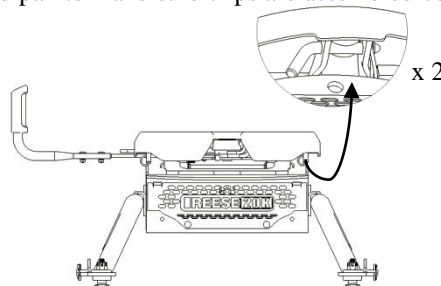

FIG. 6
2. Insert pull pin as shown in figure 6, and secure with spring clips. Both sides required.